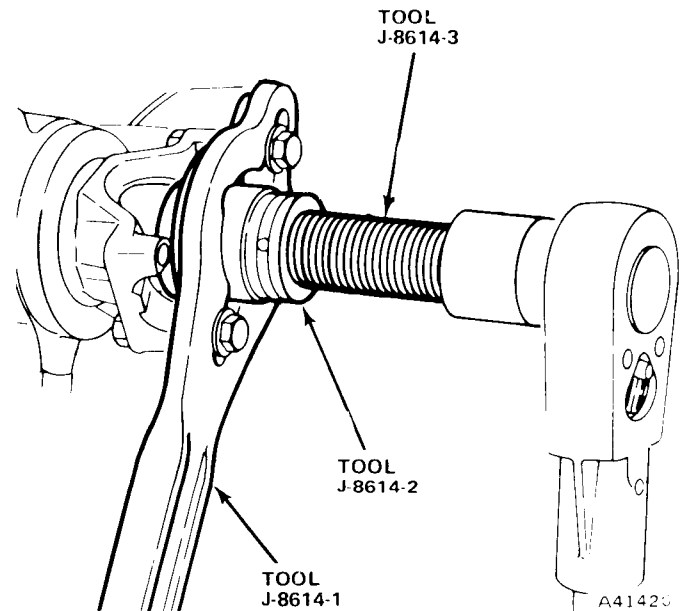

Fig. 10-38 Removing Pinion Yoke
- (2) Remove yoke using Tool J-8614-1 or J-8614-10, and Tool J-8614-2, and -3 (fig. 10-38).